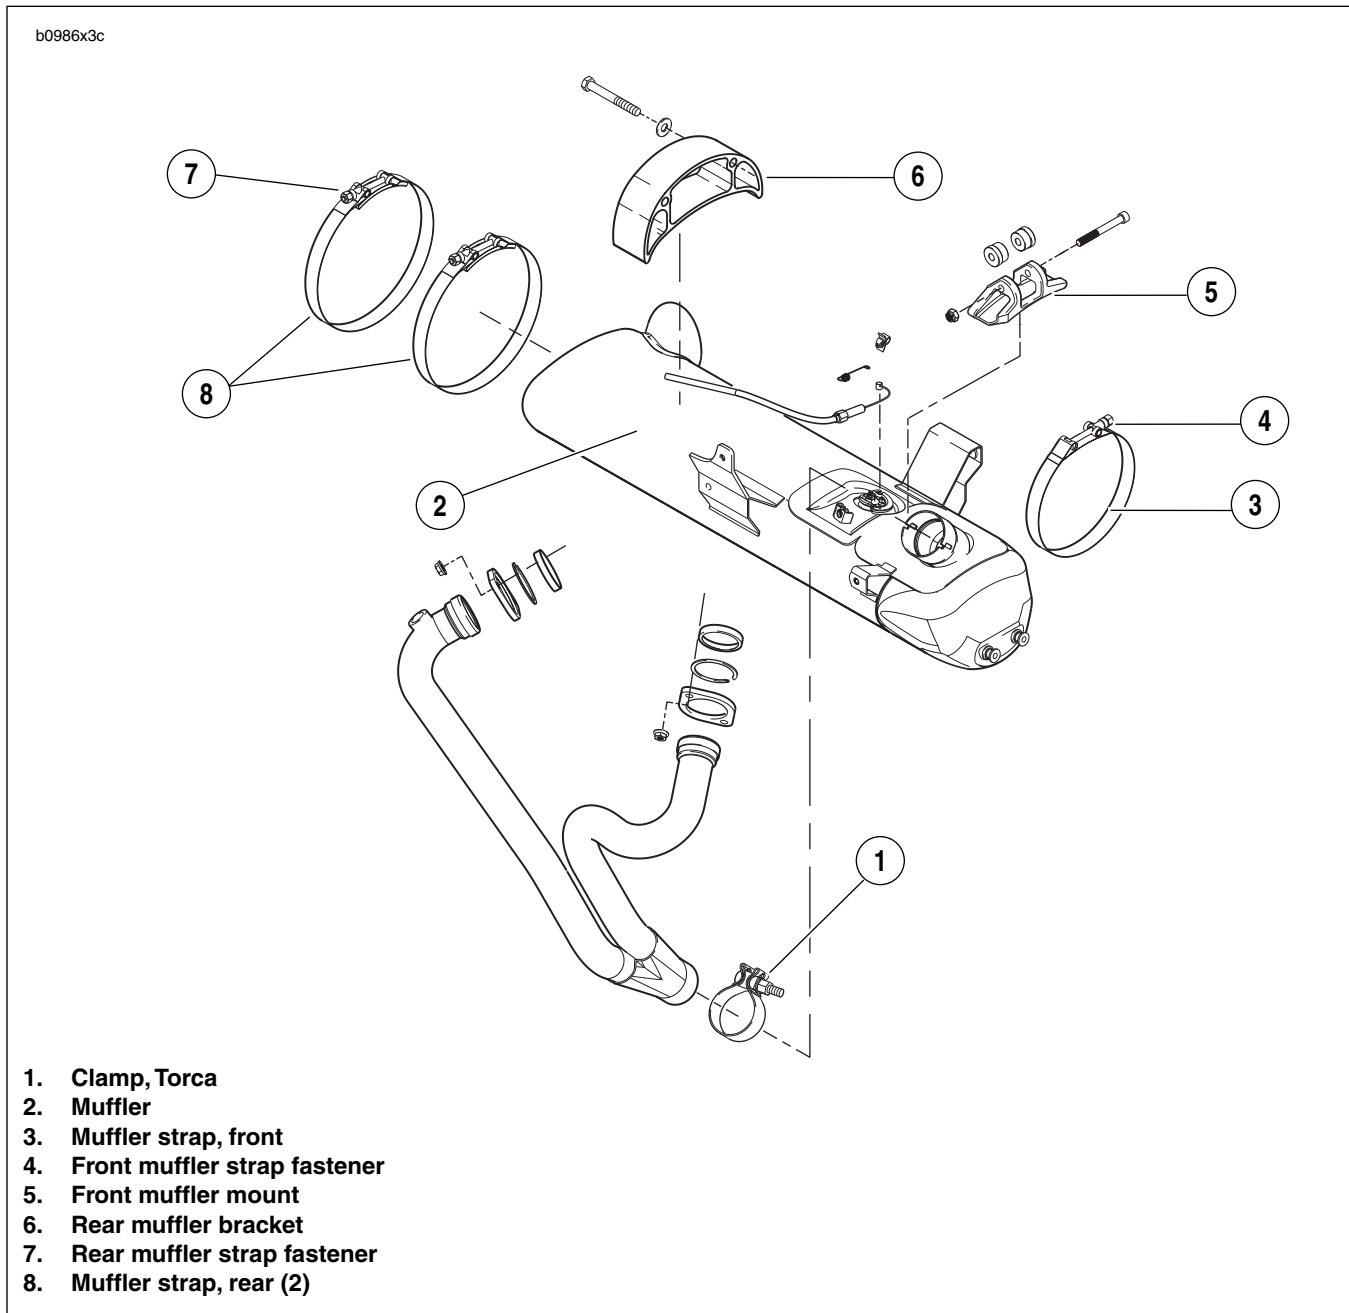

Figure 3-45. Muffer and Mounting System
19. See Figure 3-45. Install rear muffer bracket and torque to 32-36 ft-lbs (43.4-48.8 Nm).